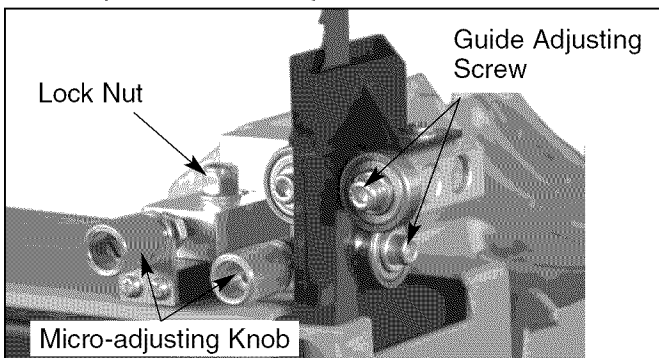

Figure 26 - Adjusting Blade Guides
- To adjust the lower blade guides, first position the right and left roller guides relative to the blade by loosening the lock nut (Figure 26) and moving the guide carrier until both roller guides are approximately $\frac{1}{16}$ " behind the gullets of the saw blade.
- Set both roller guides to within $\frac{1}{32}$ " of the saw blade by releasing the guide adjusting screw (Figure 26) through turning the micro adjusting knobs on each
- Adjust the rear roller guide to be just clear of the back of the saw blade by unlocking the guide adjusting screw (Figure 26) through turning the micro-adjusting screw.
- When the correct adjustment is reached, lock the roller guides in position with the guide adjusting screws (Figure 26).